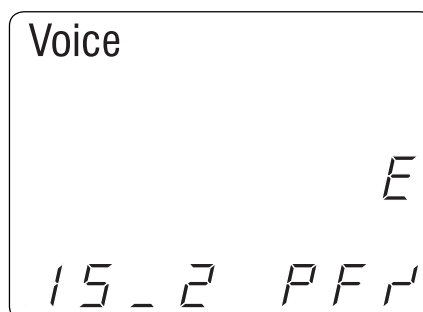

Figure 16. Edit Mode
1. When in Length Mode, press and hold the LENGTH/TONE button until "EDIT CAP" appears in the bottom of the display screen. The following updates occur in the display screen (see Figure 16):